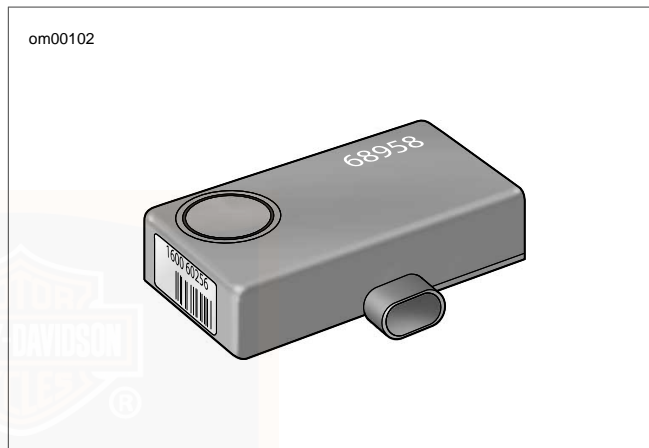

Figure 17. Optional Smart Siren
- See Figure 17. Sound the optional siren.